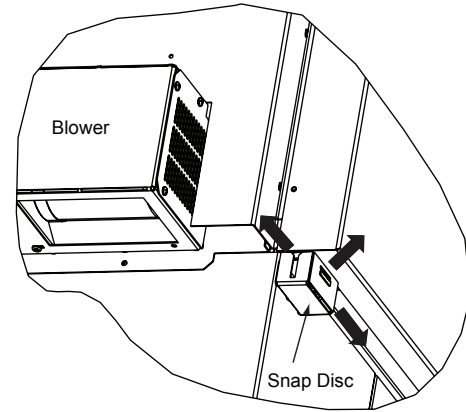

Figure 16.2 - Snap Disc Location
7. **Snap Disc Location:** If you find the blower coming on and off at undesirable temperatures, relocate the snap disc to another location in the designated zone on the back of the appliance (**Figure 16.2**). There is a manual over-ride switch to deactivate the snap disc, if necessary. See page 39 for location of over-ride switch.